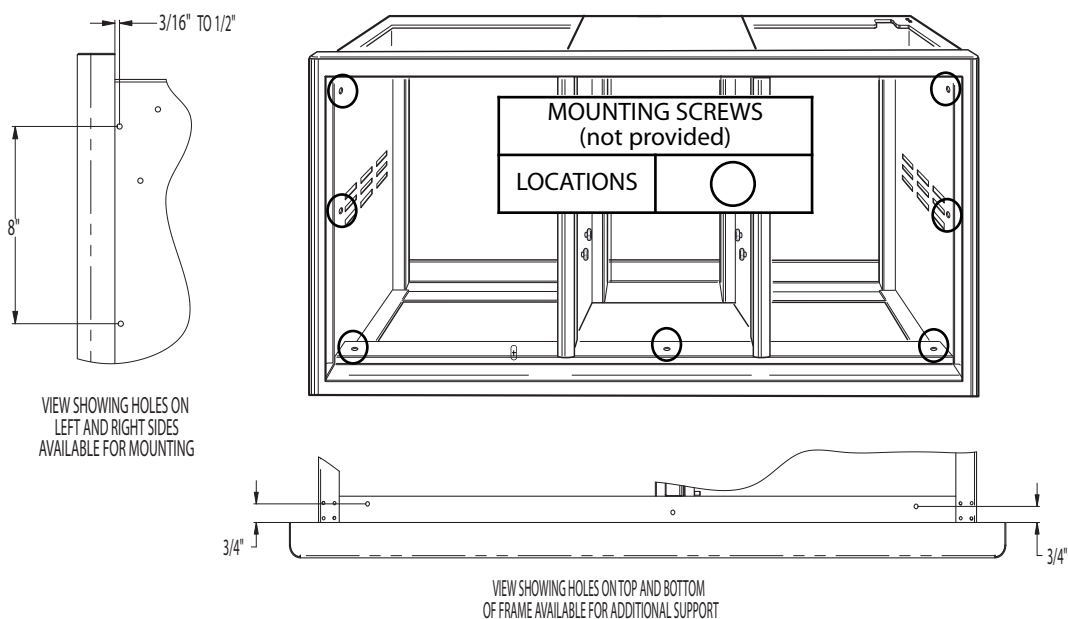

Fig. 9
2. Locate mounting holes on the frame (Fig. 9 and views). Secure the unit using screws suited for the type of cabinet material.